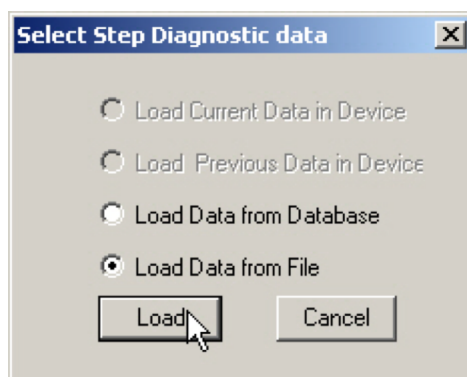

Figure 148 - Selecting Load Data from File
1. Select **Load Data from File** and click **Load** (*Figure 148*).